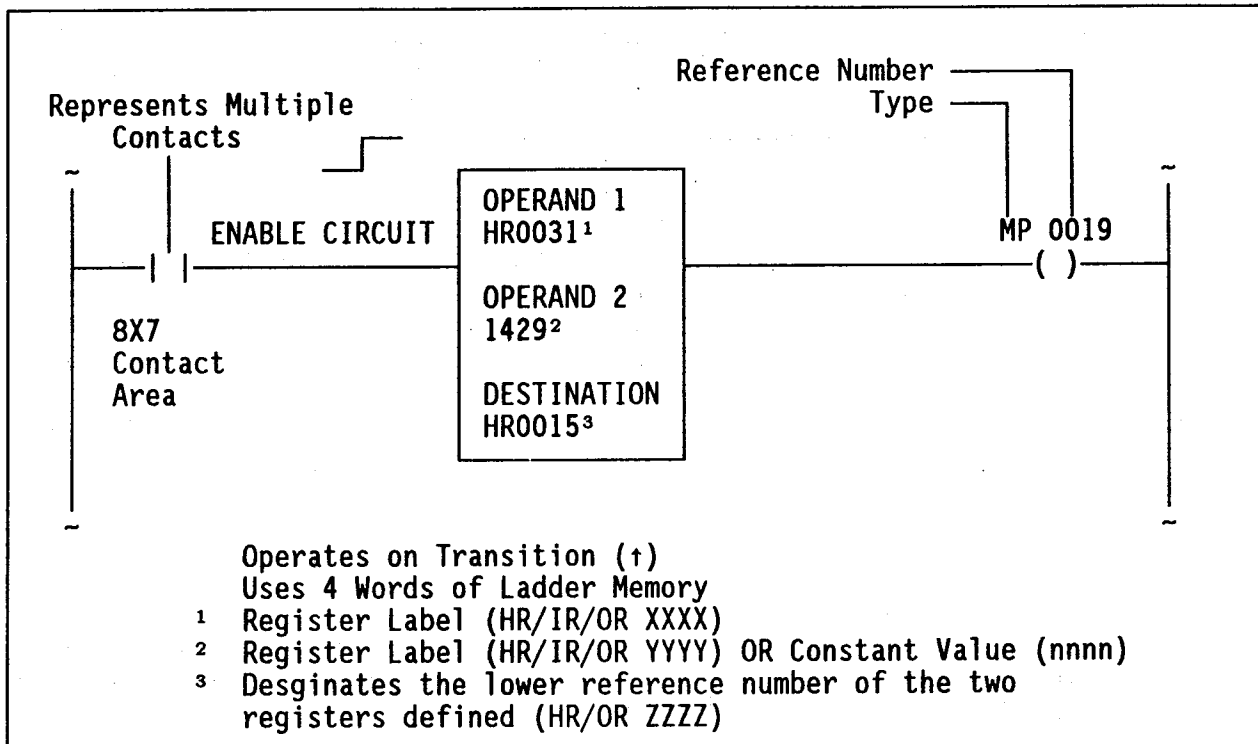

Figure 1. Multiply (MP)
The Multiply (MP) function multiplies two, four-digit decimal numbers (up to 9999). This multiplication results in a number of up to eight decimal digits (up to 99,980,001). MP function symbology is shown in Figure 1.